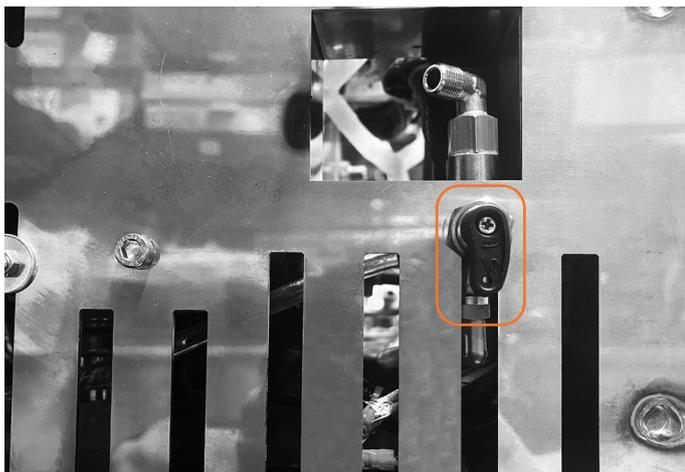

fig. 3
- **Draining from a 3lt canister:** turn the tap towards the canister (fig. 3);